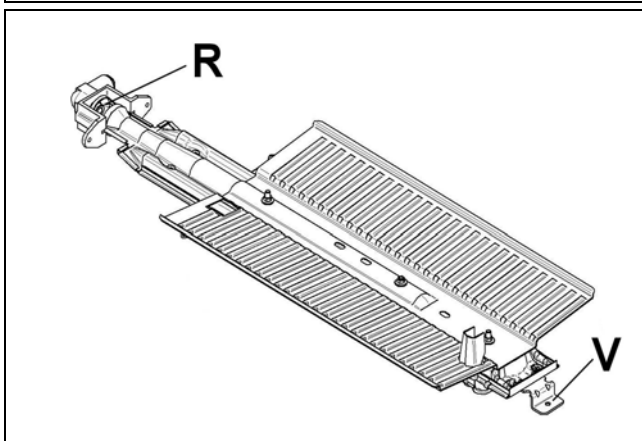

fig.10
- 3) Loosen and the screw V and pull out the burner from the support being careful not to damage the ignition plug and the thermocouple (Fig. 10)
- 4) Unscrew the nozzle R (Fig. 10) using a 7 mm. spanner and replace it with the nozzle for the new type of gas according to what is indicate in the table below